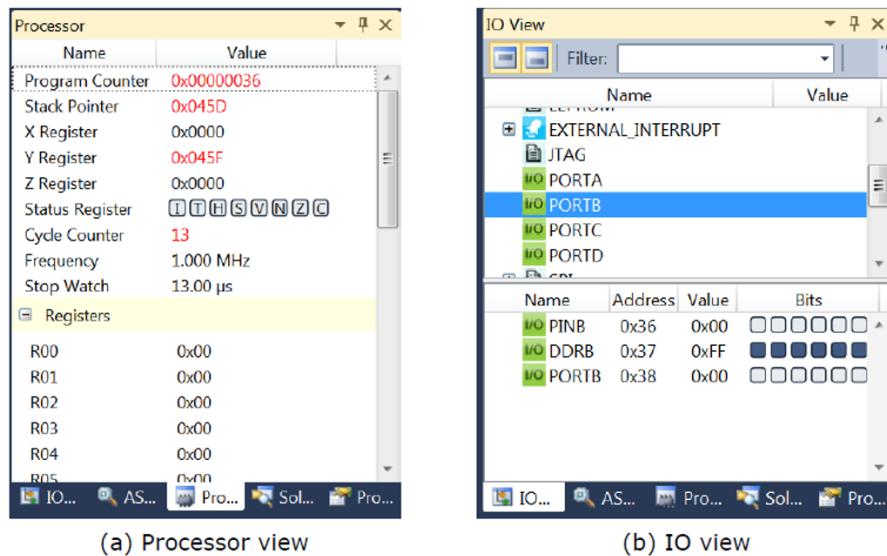

FIG 5. The contents of CPU registers and IO ports
- Atmel Studio lets you examine the contents of CPU registers and IO ports. To enable these views (Figure 5), select menu Debug — Windows and then Processor View or I/O View.